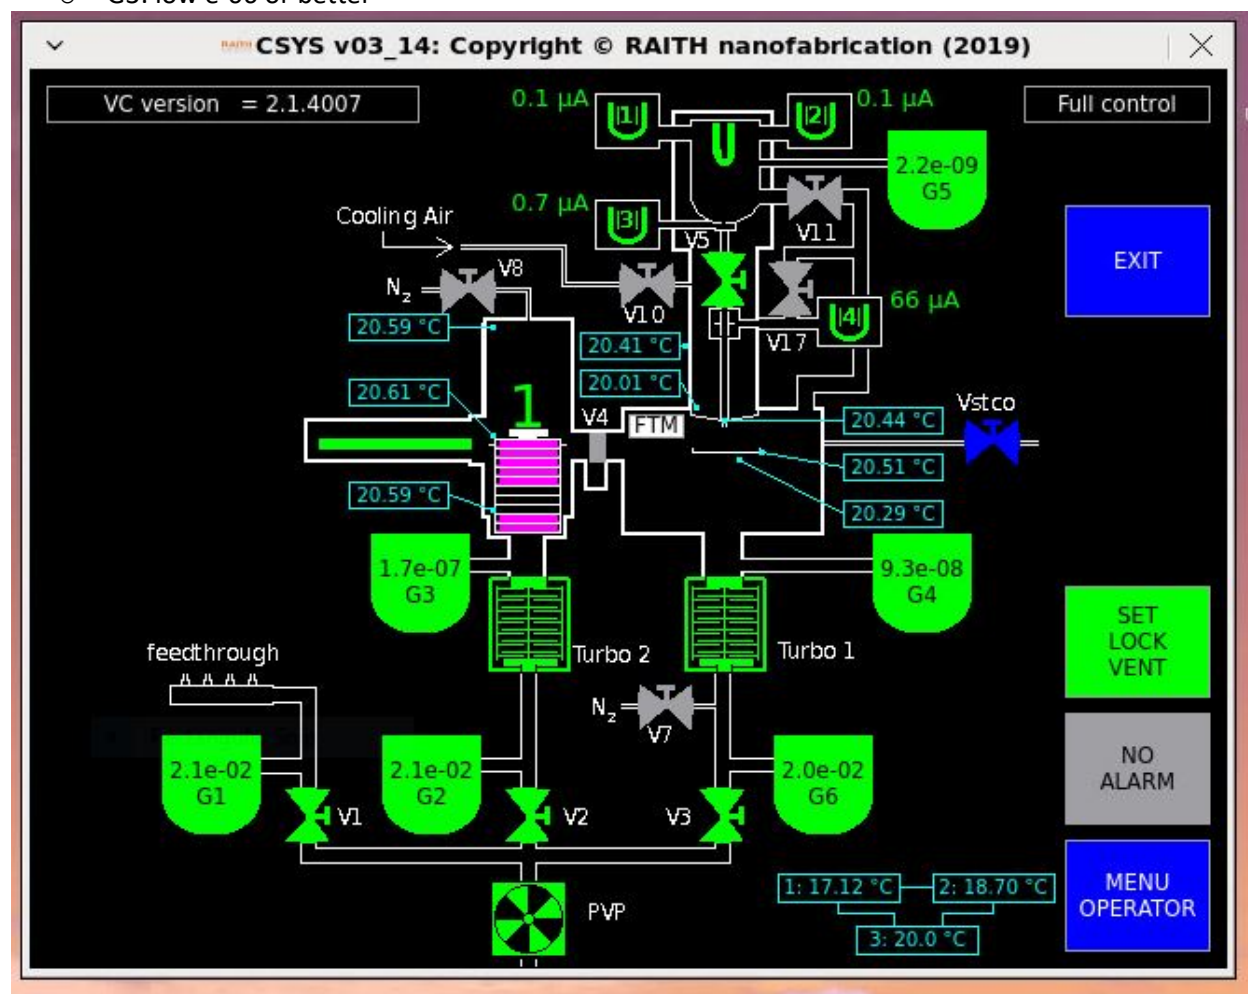

Fig. 1 Vacuum system (CSYS)
- Check the vacuum levels in the CSYS window; refer to illustration in Fig. 1: